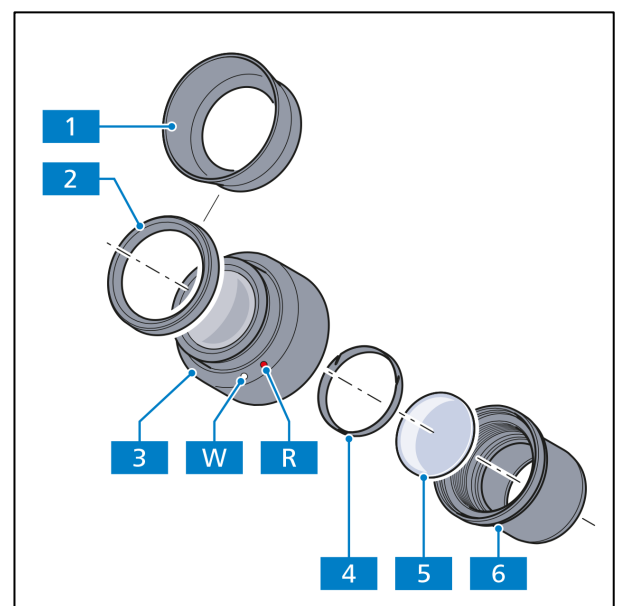

Fig. 3-6 Inserting the eyepiece reticle
Eyepiece reticles (Fig. 3-6/5) can be used with eyepieces (Fig. 3-6/3) marked with a red dot (Fig. 3-6/R).
- Unscrew mounting stop (Fig. 3-6/6) from the eyepiece (Fig. 3-6/3).
- Pull locking ring (Fig. 3-6/4) out.
- Insert eyepiece reticle (Fig. 3-6/5) into the mounting stop and fix it with the locking ring.
- Screw mounting stop (Fig. 3-6/6) into the eyepiece (Fig. 3-6/3).
Make sure that the side of the reticle (Fig. 3-6/5) with the line pattern on it is facing the mounting stop in the tube (Fig. 3-6/6).
The slight image shift caused by the additional path through glass is taken into account on the diopter scale by the fact that the zero point position is indicated not by the white dot (Fig. 3-6/W), but the red dot (Fig. 3-6/R).
- To do this, remove the eyeglass protection rings (Fig. 3-6/2) from the eyepieces and mount the eyecups (Fig. 3-6/1).